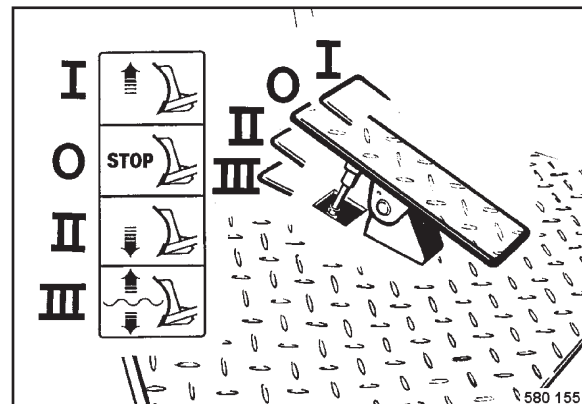

Fig. 61
- Lift or lower the dozer blade by means of the pedal (Fig. 61).